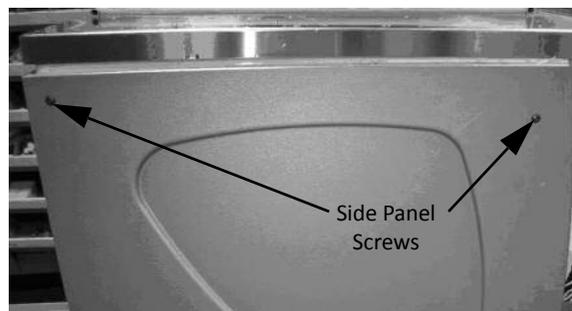

Figure 1.
1. Remove the two top black side panel screws from both sides of the FlavorFusion unit (See Figure 1.) and save the screws.
- Remove the two top black side panel screws from both sides of the FlavorFusion unit (See Figure 1.) and save the screws.